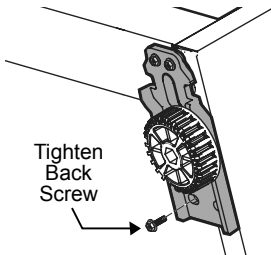

Figure 12
- 16 Adjust hinge until leveling leg screws completely into cabinet base. Tighten back screw (see Figure 12).